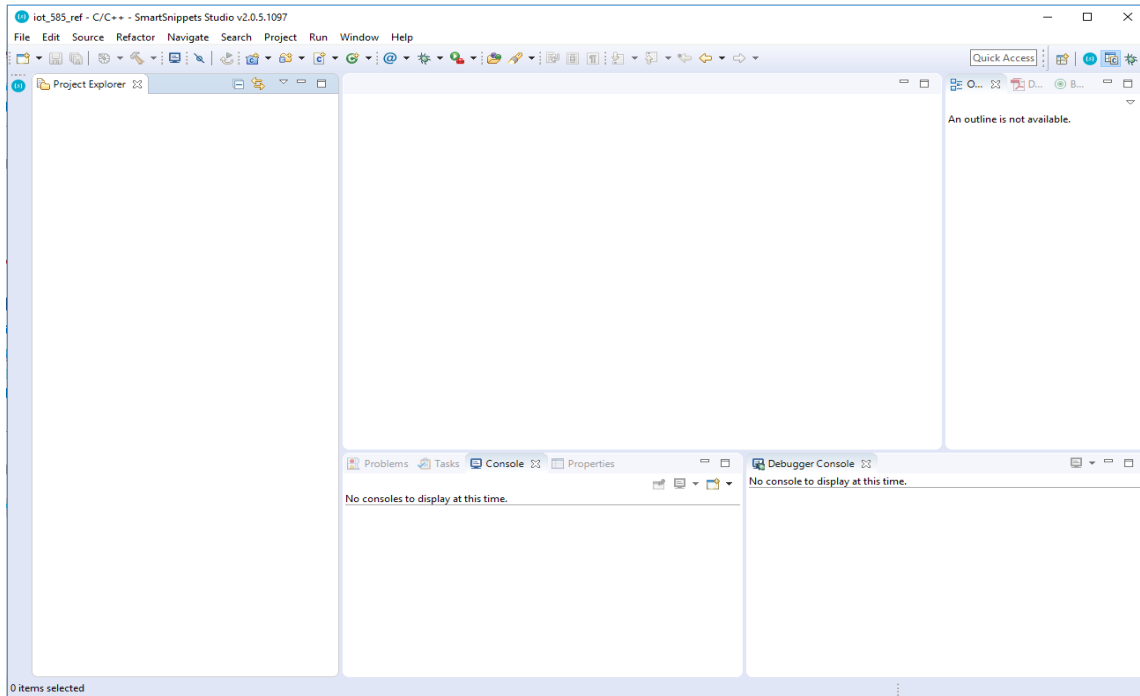

Figure 11: Eclipse CDT IDE without project
6. Now the Eclipse CDT IDE will open (Figure 11). In the left-side window there are no projects listed, so the next step is to insert the project example.